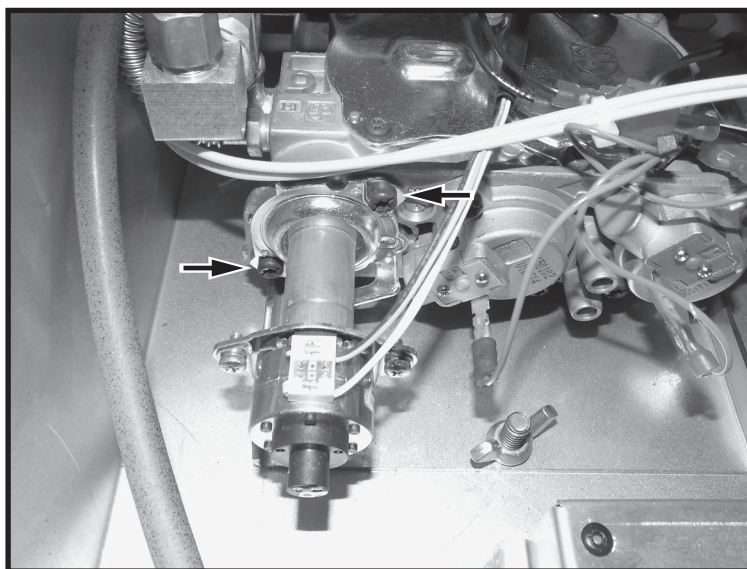
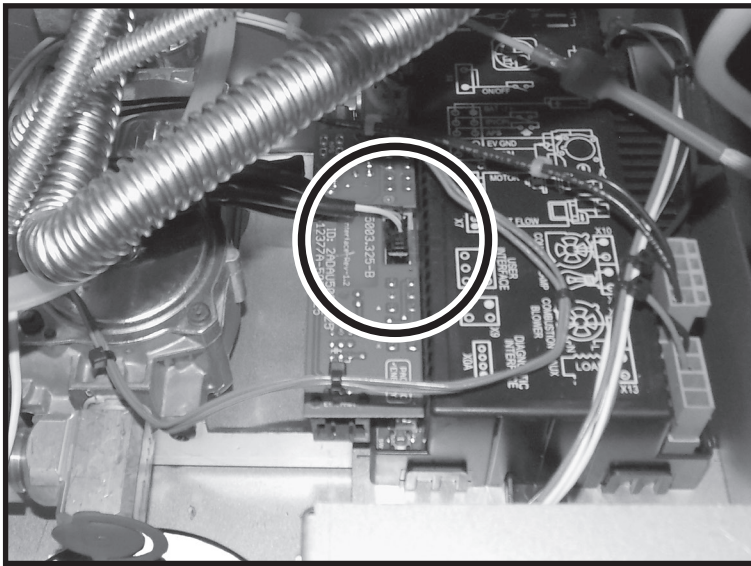

Figure 50: Stepper screws access.
Figure 51: Stepper connector location.
4. Locate the stepper (Figure 50) and follow its wires back to its electrical connection and disconnect (Figure 51).
5. Return to the stepper and locate and remove the two screws attaching the stepper to the valve (Figure 50). Discard these screws and use the two new screws included in the conversion kit.